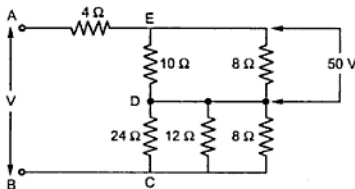

Fig. 1.80
21. In the series parallel circuit shown in the Fig. 1.80, find the